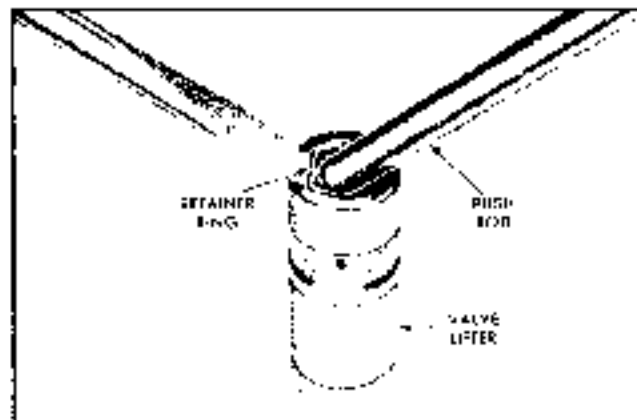

Fig. 6-82 Removing Push Rod Seat Retainer
1. Remove push rod seat retainer ring by holding seat down with push rod while dislodging spring from lifter body with a pointed tool (Fig. 6-82).